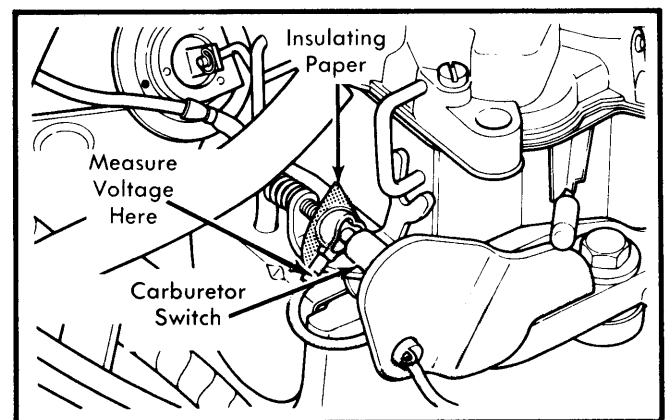

Fig. 9 Checking Voltage at Carburetor Switch
7) If battery voltage was recorded in step 6), place a thin insulator (piece of paper) between curb idle adjusting screw and carburetor switch or make sure screw does not touch switch. See Fig. 9. Connect negative lead of voltmeter to a good